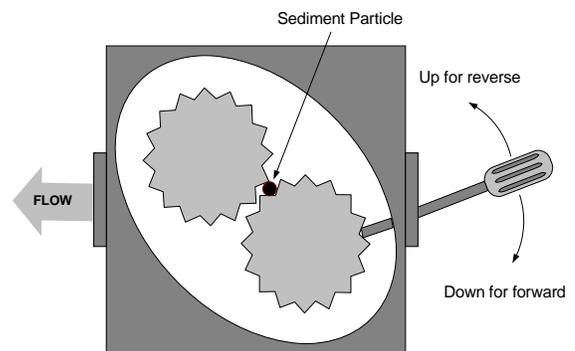

Figure 10
3. Use a screwdriver to manually turn the gears (see Figure 10).